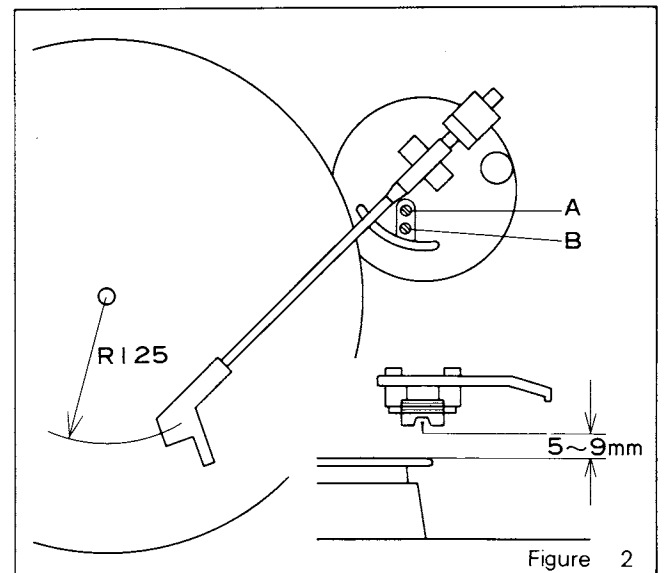

Figure 2
- (1) Set the cueing lever to up position and move the tone arm over the record surface (Fig. 2). The clearance between the stylus point and the record should measure between 5 – 9 mm. This dimension is set by screw A in Fig. 2.
- (2) Move the tone arm to the end of the record and slowly rotate the turntable platter until the tone arm starts returning. Stop the platter rotation when the tone arm is in the approximate position as above. Again measure the distance between the stylus point and the record surface. This measurement should be approximately the same clearance 5 – 9 mm. If the height needs to be adjusted, adjust screw B in Fig. 2.